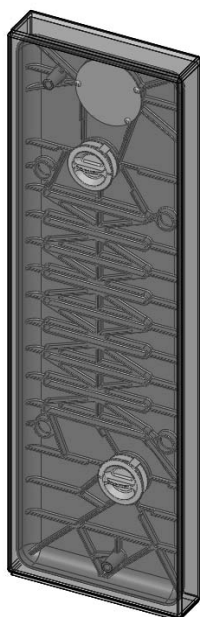

Figure 5 – Upper top package
- ✓ The fourth contains the upper top (fig. 5)